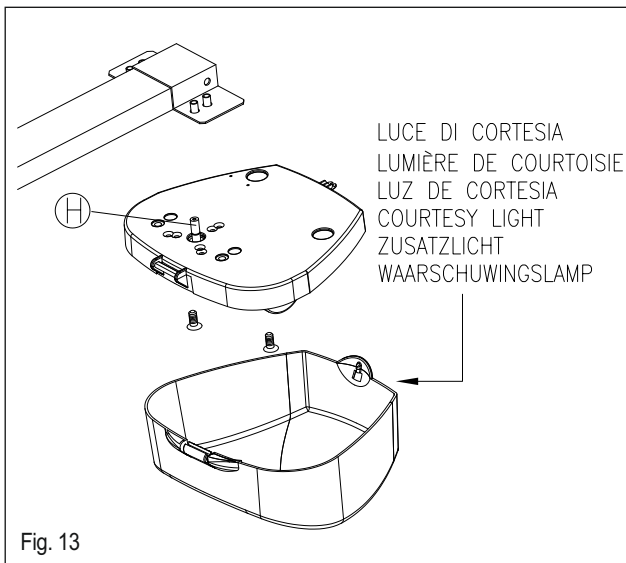

Fig. 13
**GEARMOTOR INSTALLATION:** insert the gearmotor in the rear end section of the guide until the drive shaft H is completely inserted. Facilitate this operation by turning the gearmotor. Then secure the gearmotor by means of the M8x30 screws (fig. 13). Proceed with the electrical system set-up. In the case of particularly small-sized garages, and if lighting needs to be improved, the ZEN gearmotor can be rotated through 180° (the opposite of fig. 13), thus positioning the courtesy light towards the exterior.